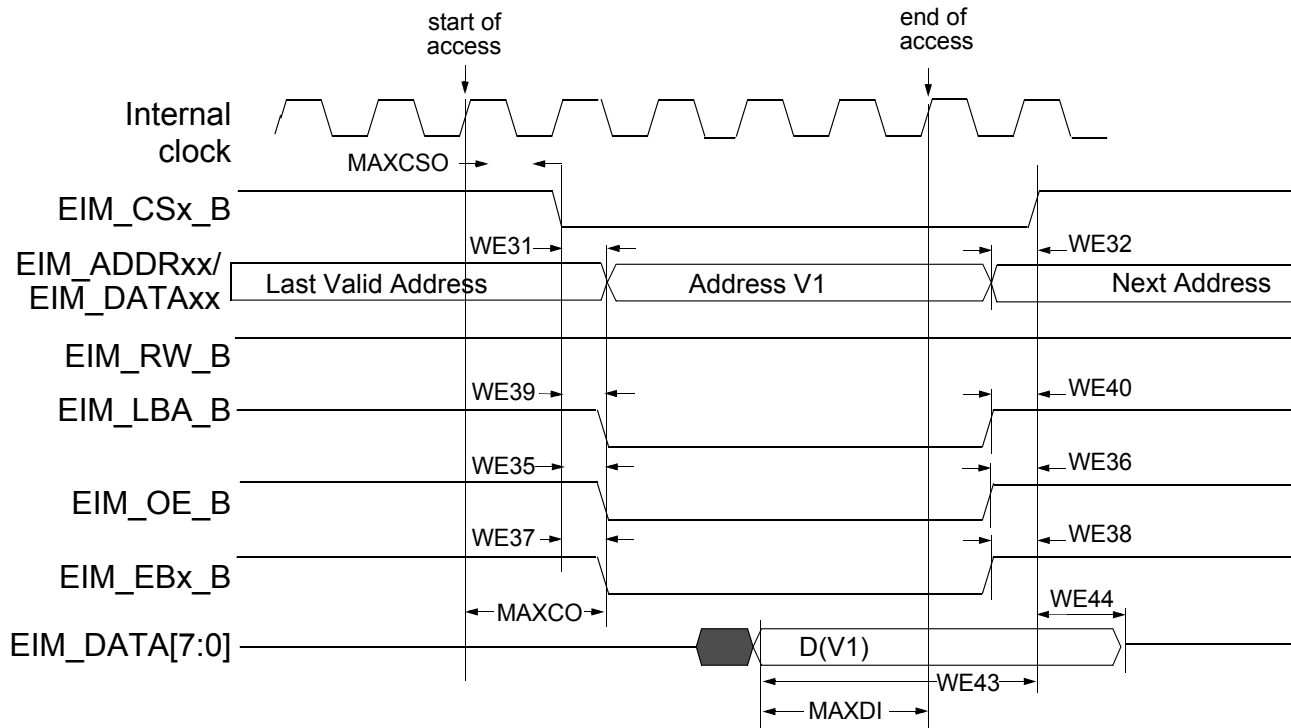

Figure 16. Asynchronous Memory Read Access (RWSC = 5)
Figure 16 through Figure 20, and Table 38 help you determine timing parameters relative to the chip select (CS) state for asynchronous and DTACK EIM accesses with corresponding EIM bit fields and the timing parameters mentioned above.
Asynchronous read and write access length in cycles may vary from what is shown in Figure 16 through Figure 19 as RWSC, OEN & CSN is configured differently. See the i.MX 6SoloLite reference manual for the EIM programming model.